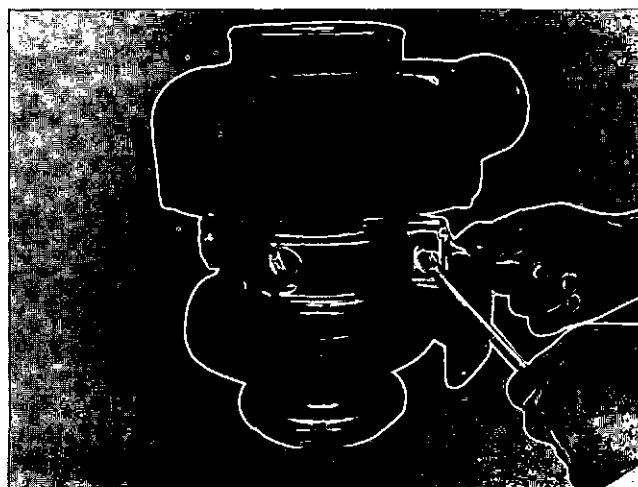

Fig. 3-2, (VTST27). Removing the V-band clamps
4. Remove the locknuts, washers and the bolts which hold the V-band clamps to the turbocharger, Fig. 3-2. Lift off the V-band clamps and discard the locknuts, washers and bolts.